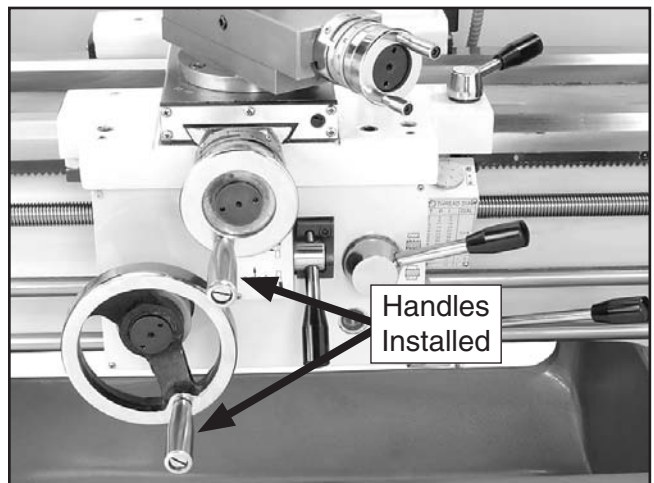

Figure 11. Carriage and cross slide handles installed.
11. Install the larger handle onto the carriage handwheel, and the smaller one onto the cross slide handwheel, as shown in **Figure 11**.